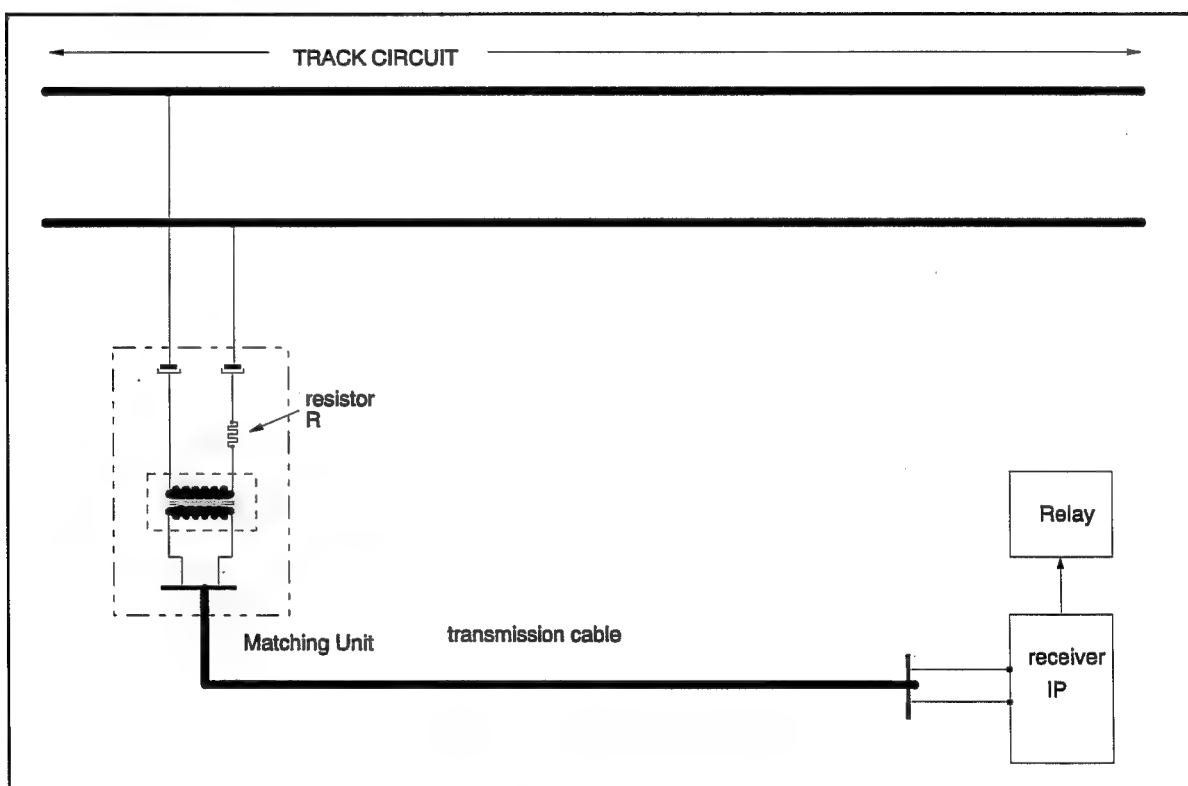

Figure 20 - Information point
- a matching unit (MU)
4.8.1.2 Principle (fig.20)